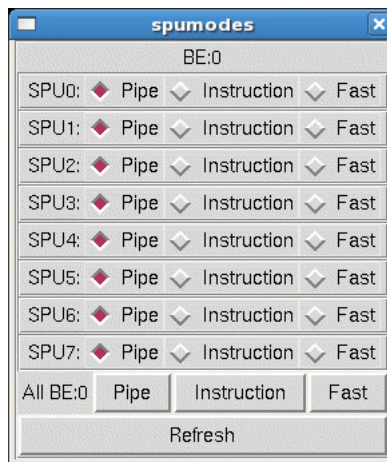

Figure 2-20. SPU Modes Windows
- **SPU Modes**—Provides a convenient means to set each SPU’s simulation mode to instruction mode, pipeline (cycle accurate) mode or fast mode. The same capabilities are available using the Model toggle menu sub-item under each SPE in the tree menu at the left of the main control panel. Figure 2-20 shows the SPU Modes window.